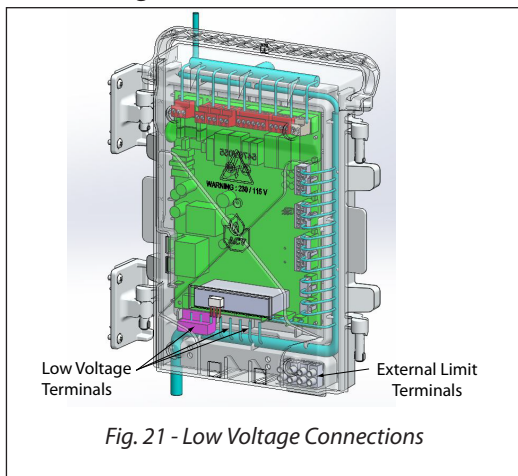

Fig. 21 - Low Voltage Connections
The low voltage terminals are located at the bottom of the CTRLMax control module. The line voltage terminals are located in the lower right corner as shown in Fig. 21 below.
1. Connect a dedicated 120 VAC/15A service to the line voltage terminals located internally in the lower right corner, as shown in *Fig. 21 below*.
2. Connect the CH circulator wiring to the line voltage terminals located internally in the lower right corner, as shown in *Fig. 21 on the left*. This circulator is typically used to supply heat to the central/space heating loop.
3. Connect the DHW circulator wiring to the line voltage terminals located internally in the lower right corner, as shown in *Fig. 21 on the left*. This circulator is typically used to supply heat to an indirect hot water heater.
4. Connect the P3 circulator wiring to the line voltage terminals located internally in the lower right corner, as shown in *Fig. 21 on the left*. This circulator is typically used to circulate water through the GALLANT in primary/secondary piped systems.
5. Connect the P4 circulator wiring to the line voltage terminals located internally in the lower right corner, as shown in *Fig. 21 on the left*. This circulator is typically used as a dedicated circulator to a second space heating zone.
1. Connect the DHW aquastat or temperature sensor wires to low voltage terminals X4-1&2 located at the bottom of the CTRLMax control module as shown in *Fig. 21 on page 32*.
3. Connect the external limit wires to the Manual Reset Limit or Auto Reset Limit low voltage terminals located on the lower right corner of the CTRLMax control module housing as shown in *Fig. 21 on page 32*.
1. Connect the system temperature sensor wires to low voltage terminals X5-3&4 located at the bottom of the CTRLMax control module as shown in *Fig. 21 on page 32*.